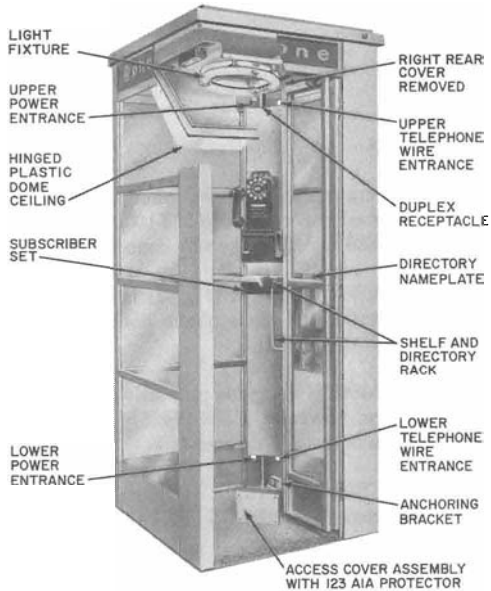

Fig. 2—KS-14611 Booth Showing Individual Features
#### BASIC BOOTH (Fig. 2)
2.14 Access covers (Fig. 2), located at the top and bottom of the right-rear column, provide access to the channels from inside the booth.